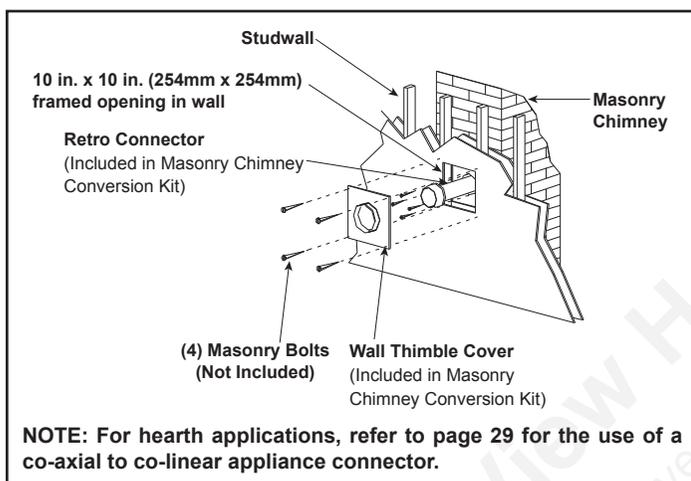
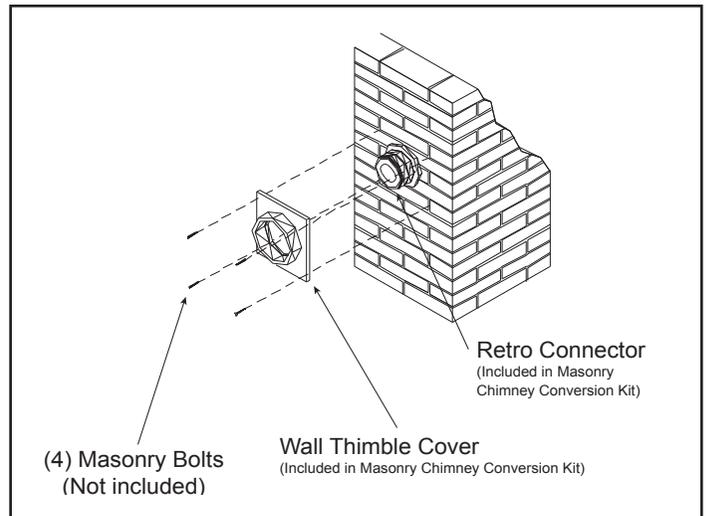

Figure 4.25
Figure 4.30
2. Once the center point of the penetration has been determined, cut a 6 in. (152mm) diameter hole in the masonry. If the hole is too large, the retro connector might not mount properly; if the hole is too small, the appliance might starve for intake air. If there is a frame wall in front of the masonry wall, cut and frame a 10 in. (254mm) square opening in the wall (centered around the 6 in. (152mm) masonry opening). If there is sheet rock only (no studs) in front of the masonry the 10 in. (254mm) opening is still needed, but does not need to be framed. If the hole is framed a wall thimble is required. This allows the retro connector to mount directly on the masonry and provide the correct clearances to combustibles. See Figure 4.25.
10. Slide wall thimble cover over retro connector and secure with masonry bolts. See Figure 4.30. If you have a framed wall in front of the masonry, use wood screws to mount wall thimble cover to framed wall, over retro connector and 10 in. (254mm) square framed opening See Figure 4.25. If needed, add a section of direct vent pipe to the retro connector in order to extend through the opening in the wall thimble cover.